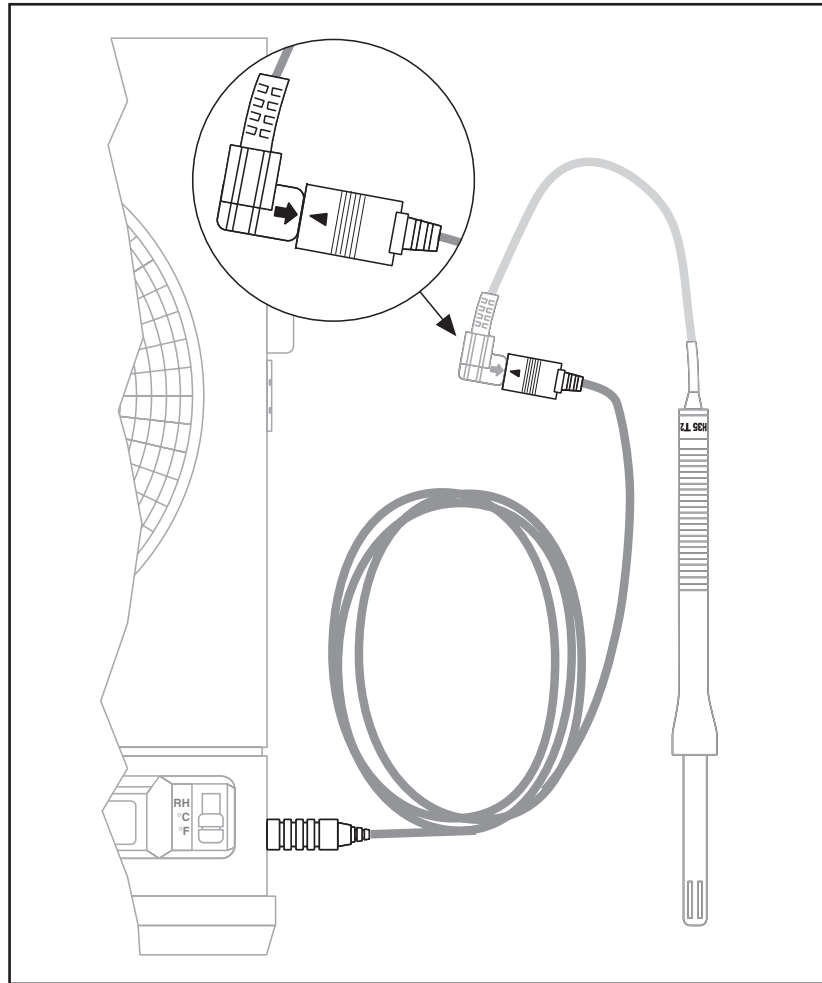

Figure 2-16. Using the Remote Sensor Cable
1. Connect the end of the cable **with** the arrow to the short cable on the sensor. Line up the two arrows as shown in Figure 2-16 before mating the two cables.